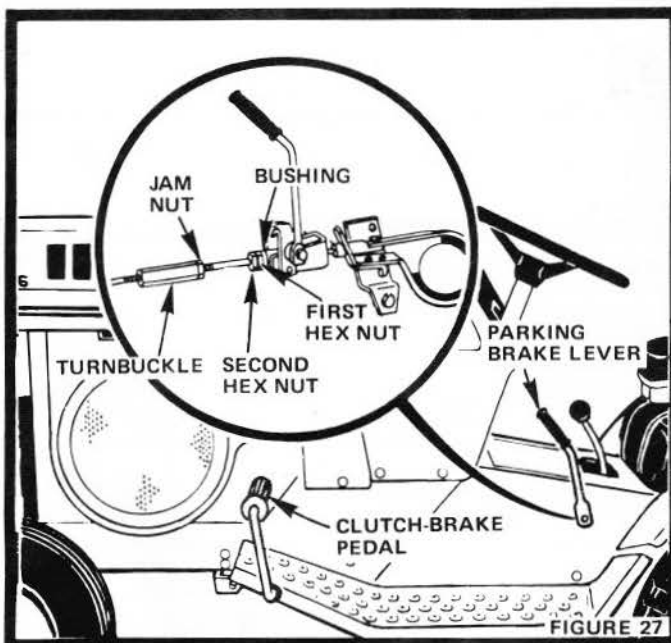

FIGURE 27
If Clutch-Brake Pedal (Fig. 27) has more than approximately 4 inches of travel from vertical to full brake position then brake adjustment is necessary.
- Loosen Jam Nut (Fig. 27) in order to turn turnbuckle clockwise (from in front of tractor) one turn at a time until Clutch-Brake Pedal regains 4 inches of travel.
- Loosen Parking Brake Hex Nuts (Fig. 27).